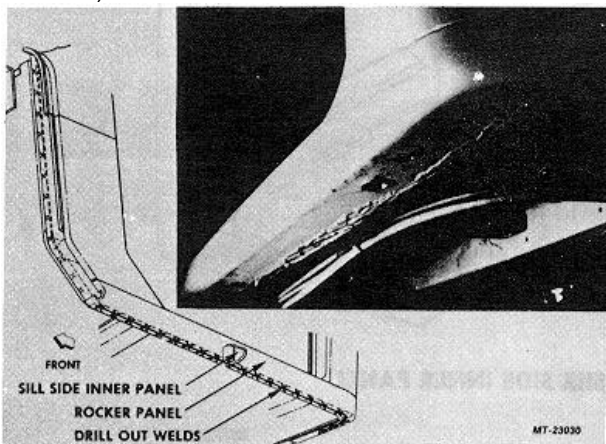

Fig. 41. Rocker Panel to Sill-Side Inner Panel Spot Welds
5. Drill out spot welds along seam at bottom of cab and separate rocker panel from sill side inner panel (Fig. 41).